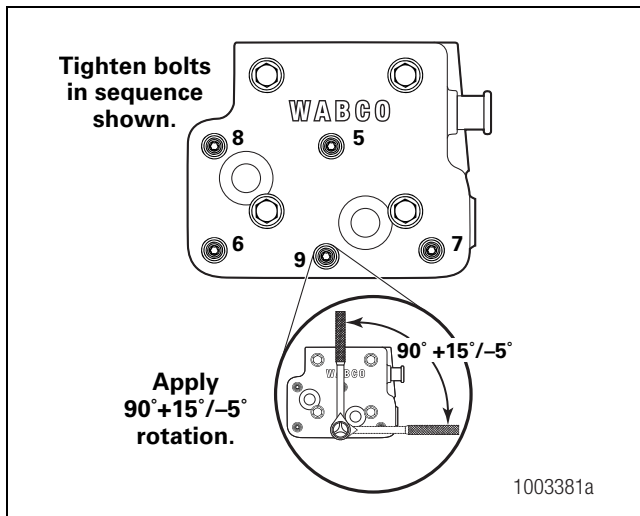

Figure 3.10
6. Use a Torx[®] tool to tighten the five Torx[®] head screws in sequence (5 - 6 - 7 - 8 - 9) to 4.4 lb-ft (6 ± 0.6 N•m). Then, apply an additional $90^\circ +15^\circ/-5^\circ$ rotation to the five Torx[®] head screws. Use an angular gauge to check the rotation. Figure 3.10.